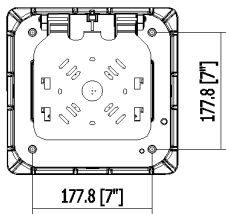

FIG.6
2. Remove and discard mounting plate. Use ceiling mounting holes shown in FIG. 6,7.